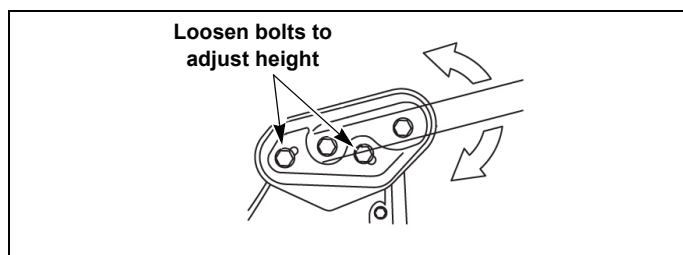
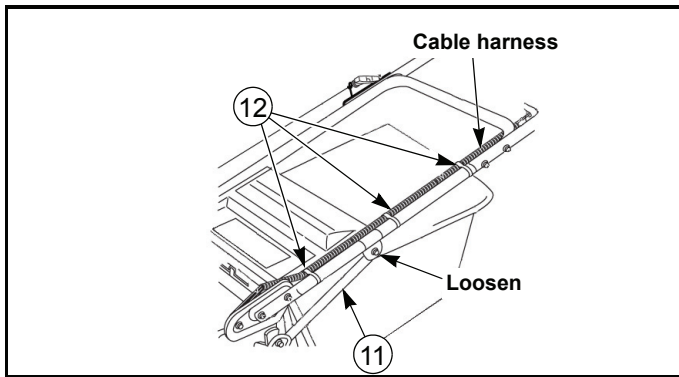

Fig. 4-7
Fig. 4-8
NOTE: When adjusting the height of the handle, loosen the bolt on the bar ⑪, before loosening the handle height adjustment bolt. Fix the cable harness to the handle with velcro straps so that they do not interfere with the opening / closing of the guard or operation of the machine. The cable harness should be routed under the lower handle. Fig. 4-7 and Fig. 4-8